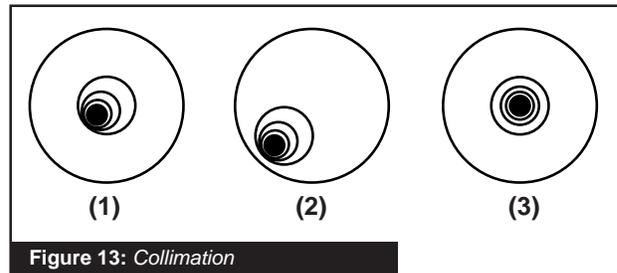

Figure 13: Collimation
2. While looking at the defocused star image, notice which direction the darker shadow is offset in the ring of light or notice which part of the ring is the thinnest (**Pg. 41 Fig. 13, 1**). Place your index finger in front of the telescope so that it touches one of the collimation set screws. You will see the shadow of your finger in the ring of light. Move your finger around the edge of the black plastic secondary mirror support until you see the shadow of the finger crossing the thinnest part of the ring of light. At this point, look at the front of the telescope where your finger is aiming. It will either be pointing directly at a set screw, or it will be between two set screws aiming at the set screw on the far side of the black plastic secondary mirror support. This is the set screw that you will adjust.
3. Using the Arrow keys at the slowest slew speed, move the defocused image to the edge of the eyepiece field of view (**Pg. 41, Fig. 13, 2**), in the same direction as the darker shadow is offset in the ring of light.
6. When you bring the image to center (**Pg. 41, fig. 13, 3**), carefully examine the evenness of the ring of light (concentricity). If you find that the dark center is still off in the same direction, continue to make the adjustment in the original turning direction. If it is now off in the opposite direction, you have turned too far and you need to turn in the opposite direction. Always double check the image in the center of the field of the eyepiece.